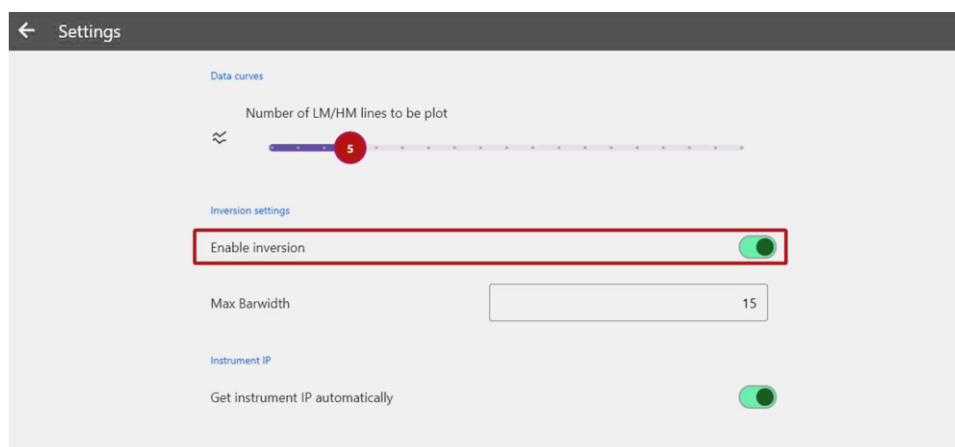

Figure 20 Enable/Disable inversion option in Settings menu
- a) Inversion is turned off - Go to Settings and make sure inversion is enabled (Figure 20).